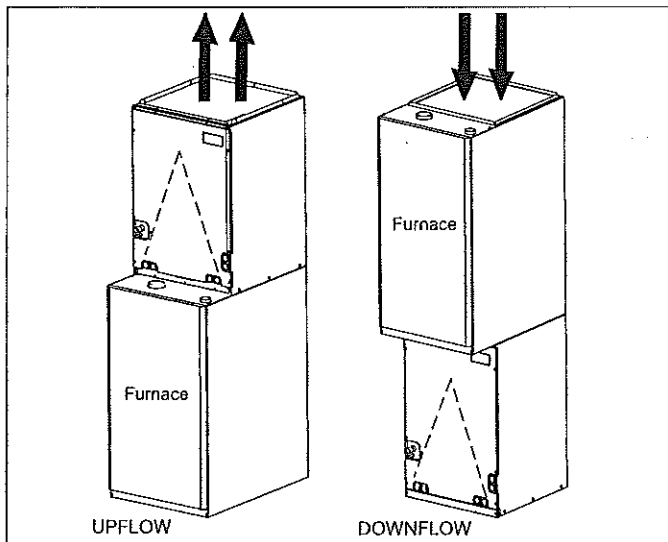
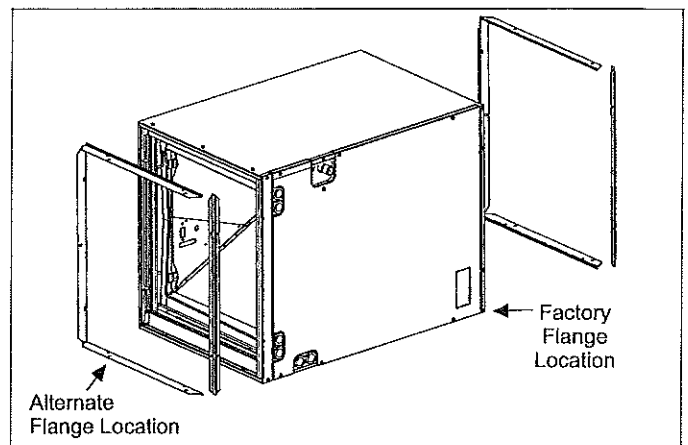

FIGURE 5: Vertical Applications
FIGURE 7: Coil Flange
1. Position the coil casing over or under the furnace opening as shown in Figure 5 after configuring coil flanges as required see "Coil Flange" section below and refer to Figure 7.
2. Remove all 8 screws from flanges and position them at the bottom of the casing for the alternate position. Refer to Figure 7.
The coils include removable flanges to allow proper fit up with furnaces or two-piece air handlers having various inlet and outlet flange configurations. The two flanges are attached to the top of the coil in the factory during production. If the installation requires the flanges to be moved to the bottom of the coil, remove the screws attaching the flanges to the top of the coil casing. Next, install the flanges to the bottom of the coil casing using the same screws. Refer to Figure 7.